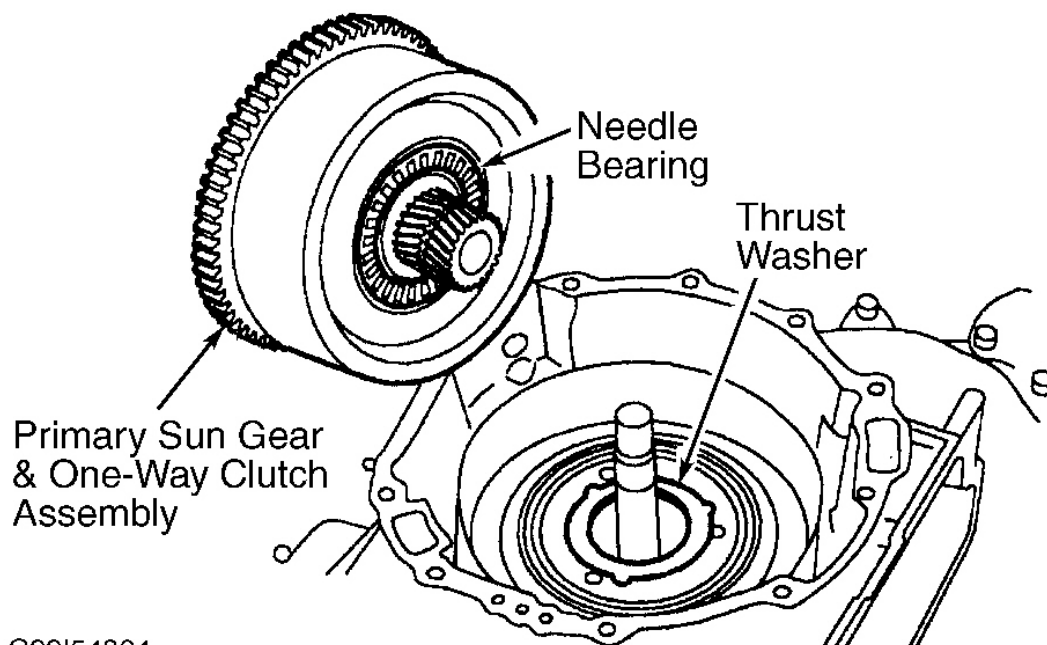

Fig. 43: Installing Primary Sun Gear & One-Way Clutch
16. Install primary sun gear and one-way clutch into carrier hub. Ensure planet gear bearing thrust washer and needle bearing are installed between carrier hub assembly and primary sun gear and one-way clutch. See **Fig. 43**. Rotate primary sun gear and one-way clutch for easier assembly.